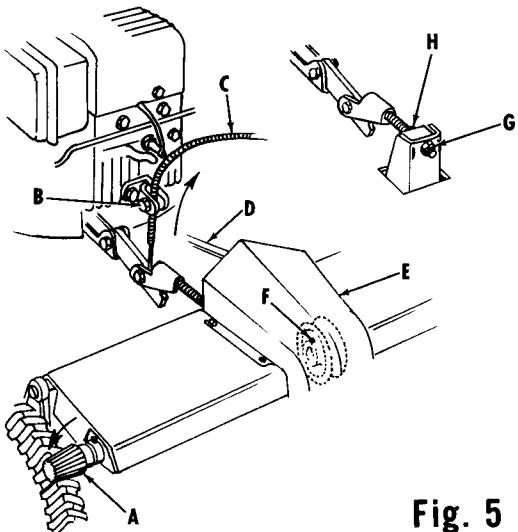

Fig. 5
When the traction drive rollers (A) (see Figure 5), become worn or loose on tires, make the following adjustments: